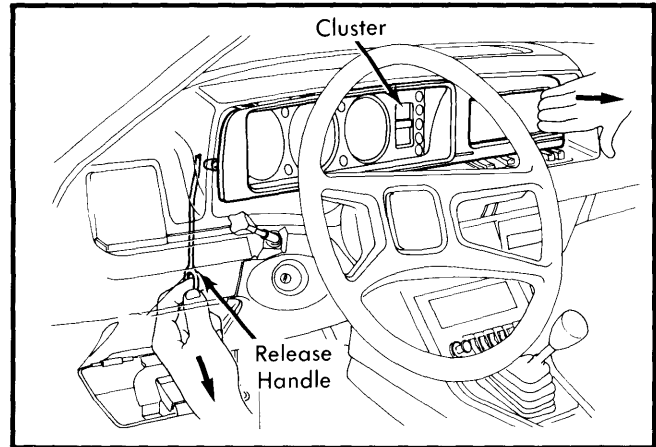

Fig. 1 Removing 604 Instrument Cluster. Pull Release Handle and Unhook Right Side.
Removal (604) — Disconnect battery ground cable. Pull sharply on speedometer cable to disconnect it from cluster. Pull release handle under left side of cluster and unhook right side. Unplug wiring and remove cluster. See Fig. 1.